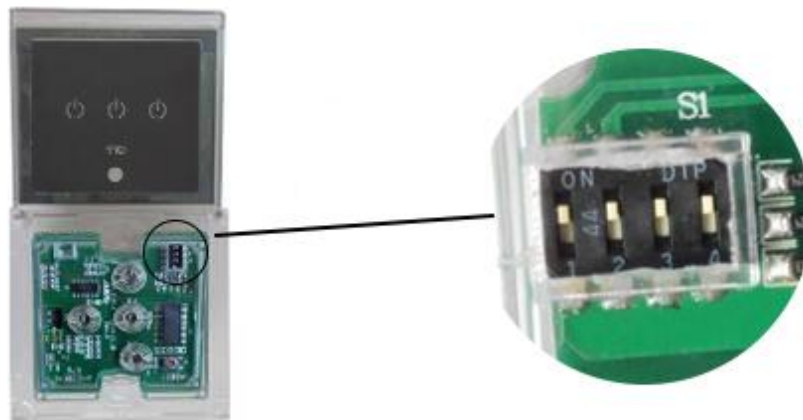

Fig. 5 Dip Switches for Activating Delay-off Time
- Set up delay-off function: Use a screwdriver to pry off the front plate to access the dip switches as shown in Fig.5. Switching the first 3 dip switches to on will set up each on/off button for delay-off operation respectively.